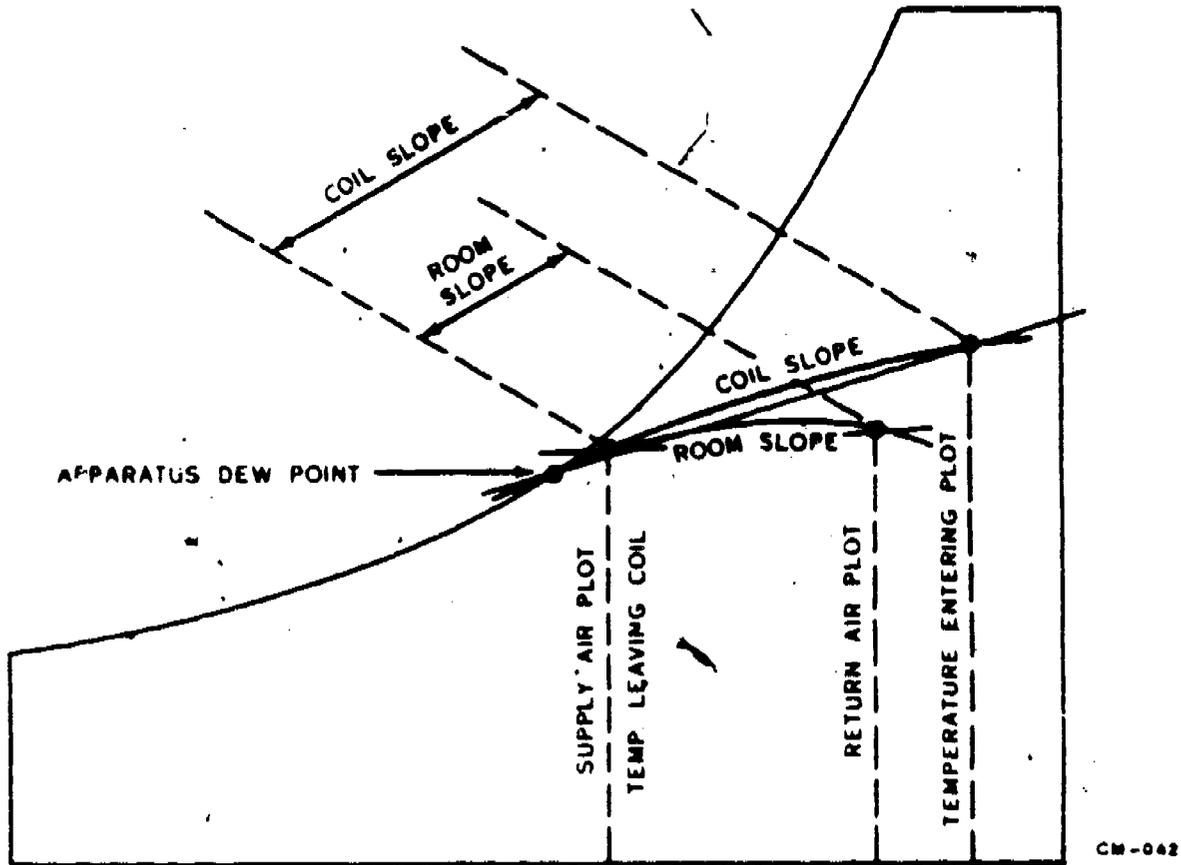

Figure 31. Coil Slope, Room Slope, and Apparatus Dewpoint
**COIL SLOPE.** This is the amount of Btu removed from the air entering and leaving a coil. To graphically illustrate coil slope, you must join the %RH points of the TE and the TL with a straight line, and read the answer on the HC scale by subtracting the HC of TL from the HC of TE (see figure 31).
**ROOM SLOPE.** This is the amount of Btu that are picked up in a room from the time air enters as supply air and leaves as return air. Plotting procedures are the same as for coil slope; join the %RH of TE and the TL with a straight line and read the answer on the HC scale by subtracting the HC of SA from the HC of RA and recording the difference (see figure 31).